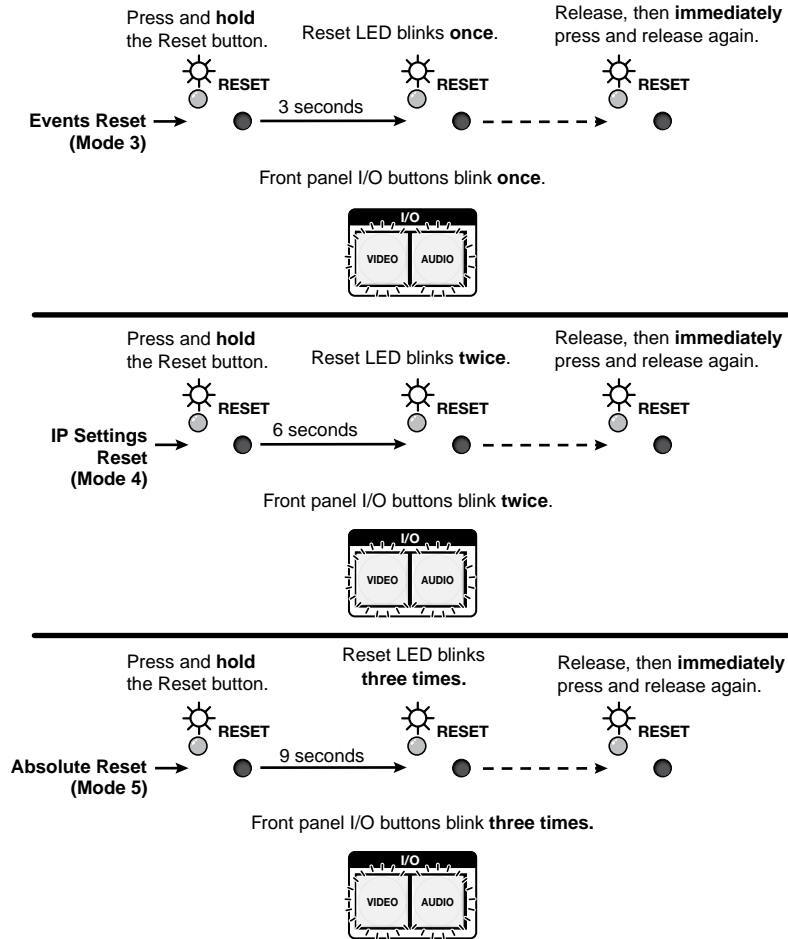

Figure 28. Soft System Resets
1. Use a small screwdriver to press and **hold** the rear panel Reset button until the Reset LED and the front panel Video and Audio buttons blink the number of times for the desired reset: once (events reset), twice (system reset), or three times (absolute reset) (see figure 28).